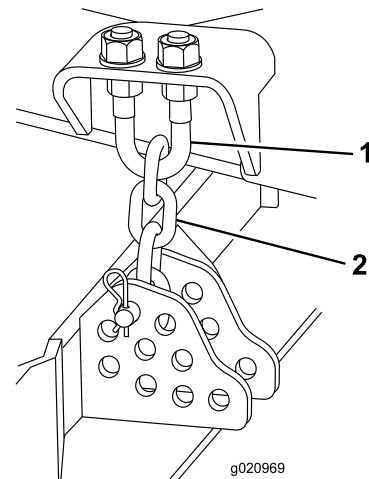

Figure 91
1. Loosen the jam nuts on the top or bottom of the height-of-cut-chain U-bolt (Figure 91).